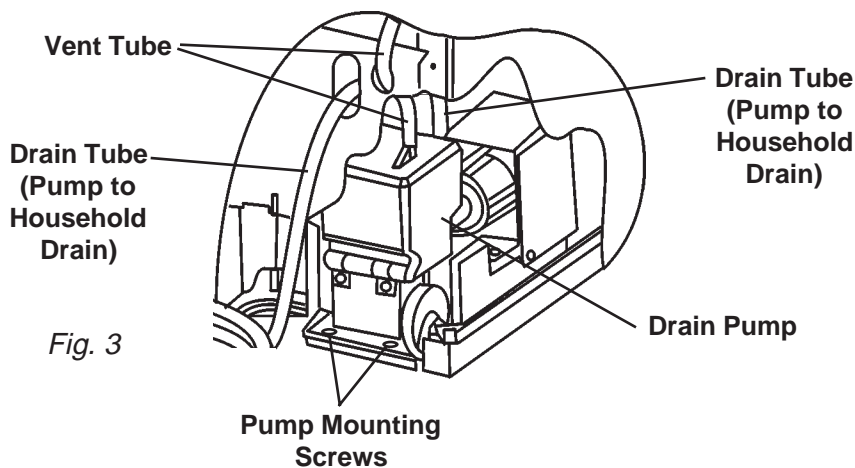

Fig. 3
8. Attach the drain tube from the bin to the pump inlet. Install the vent tube and drain tube to the household drain before securing the pump to the unit base. The vent tube and drain tube should be threaded through the component compartment cover. (Fig. 3)
10. Line up the two (2) holes at the rear of the pump with the two holes in the unit base and install two (2) #8 x 1/2" hex-head screws. (Fig. 3)